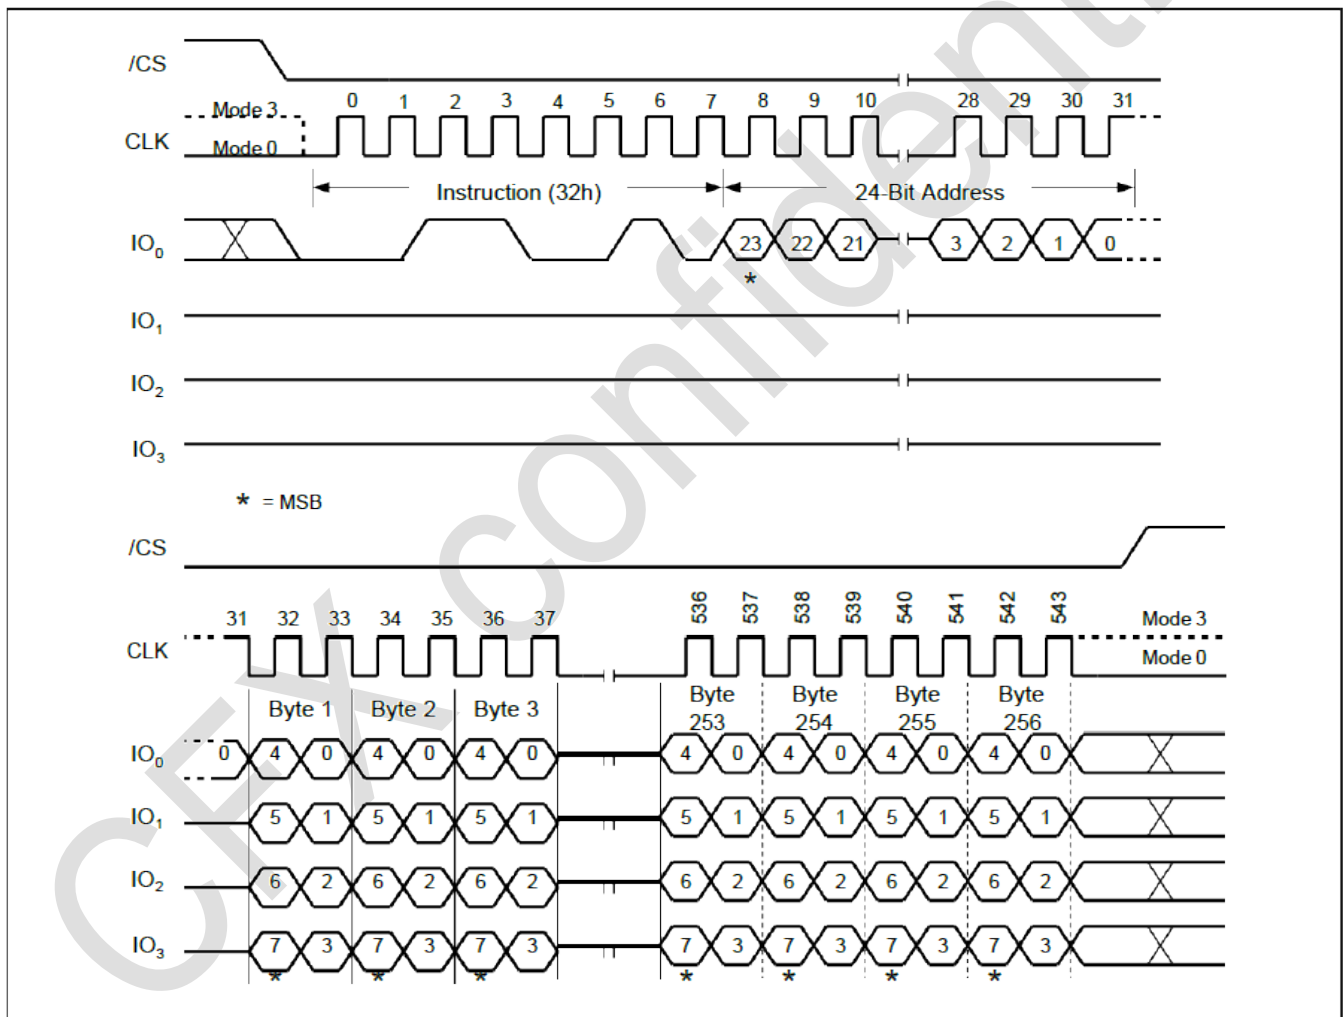

Figure 20. Quad Input Page Program Instruction
To use Quad Page Program the Quad Enable (QE) bit in Status Register-2 must be set to 1. A Write Enable instruction must be executed before the device will accept the Quad Page Program instruction (Status Register-1, WEL=1). The instruction is initiated by driving the /CS pin low then shifting the instruction code “32h” followed by a 24-bit address (A23-A0) and at least one data byte, into the IO pins. The /CS pin must be held low for the entire length of the instruction while data is being sent to the device. All other functions of Quad Page Program are identical to standard Page Program. The Quad Page Program instruction sequence is shown in Figure 20.